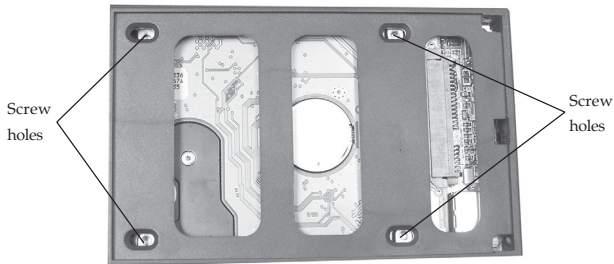

Figure 8
- Hold onto the hard disk drive and turn the hard disk drive tray over. Secure the hard disk drive with four mounting screws, see **Figure 8**.